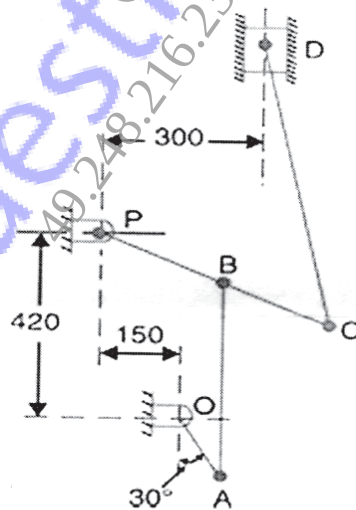

Fig.1
- Q1) a)** For the engine mechanism shown in Fig. 1. The crank OA rotates uniformly at 180 r.p.m. in clockwise direction. The various lengths are OA = 150mm; AB = 450 mm; PB = 240 mm; BC = 210 mm; CD = 660mm. **[10]**